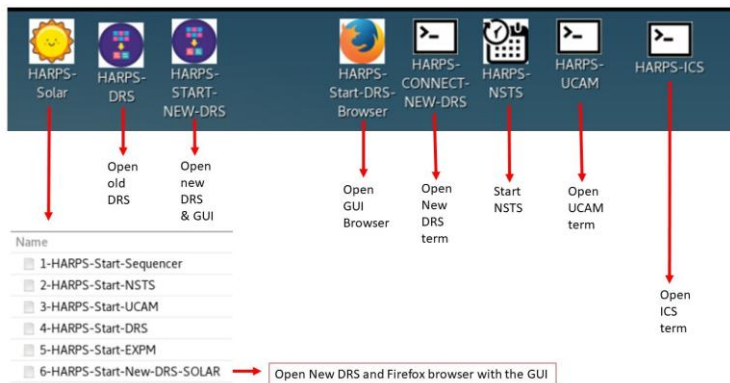
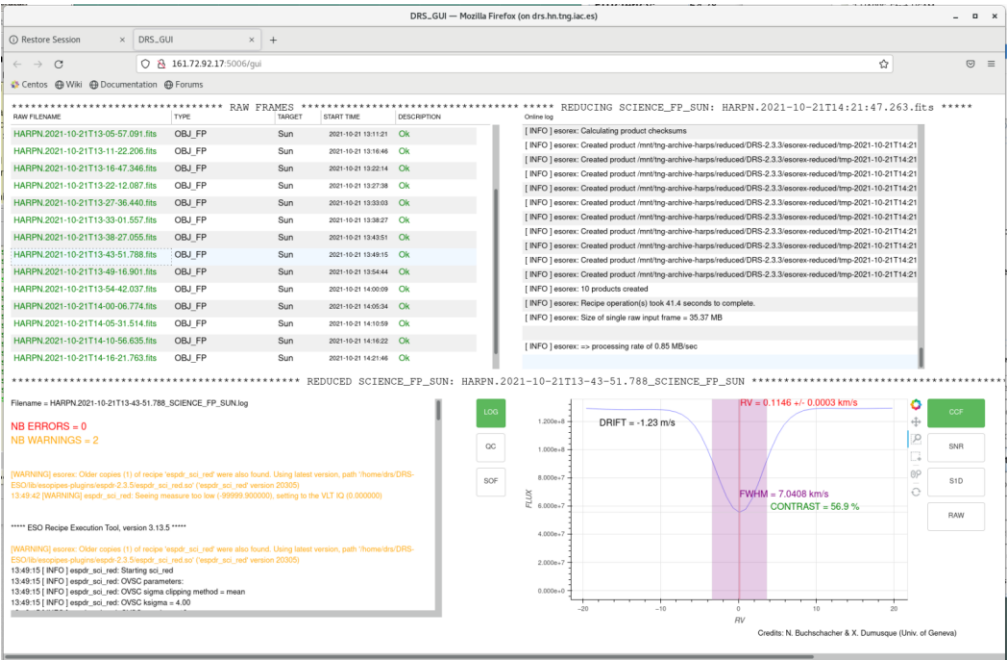

Figure 18 – brunello workstation desktop
Figure 24 - The WEB GUI
From the **brunello** workstation click on the **HARPS Short Time Scheduler** icon (the icons can be different from the Figure 18).
- 1) Open a HARPS-DRS terminals by clicking the HARPS-DRS icon in the **brunello** workstation, Figure 18 (or execute: `ssh -Y harpn@drs32.hn` from a linux machine)
The fast method to start the ESPRESSO DRS is by click the HARPS-START-NEW-DRS icon in the Brunello desktop (Figure 18). This shortcut starts the ESPRESSO DRS and the WebGUI (Figure 24).
- 1) Open a HARPS-DRS terminals by clicking the HARPS-CONNECT-NEW-DRS icon in the **brunello** workstation, Figure 18.
The WEB GUI will show any new raw frame arriving in the *current* night directory and the trigger automatically execute the corresponding recipe (Figure 24).